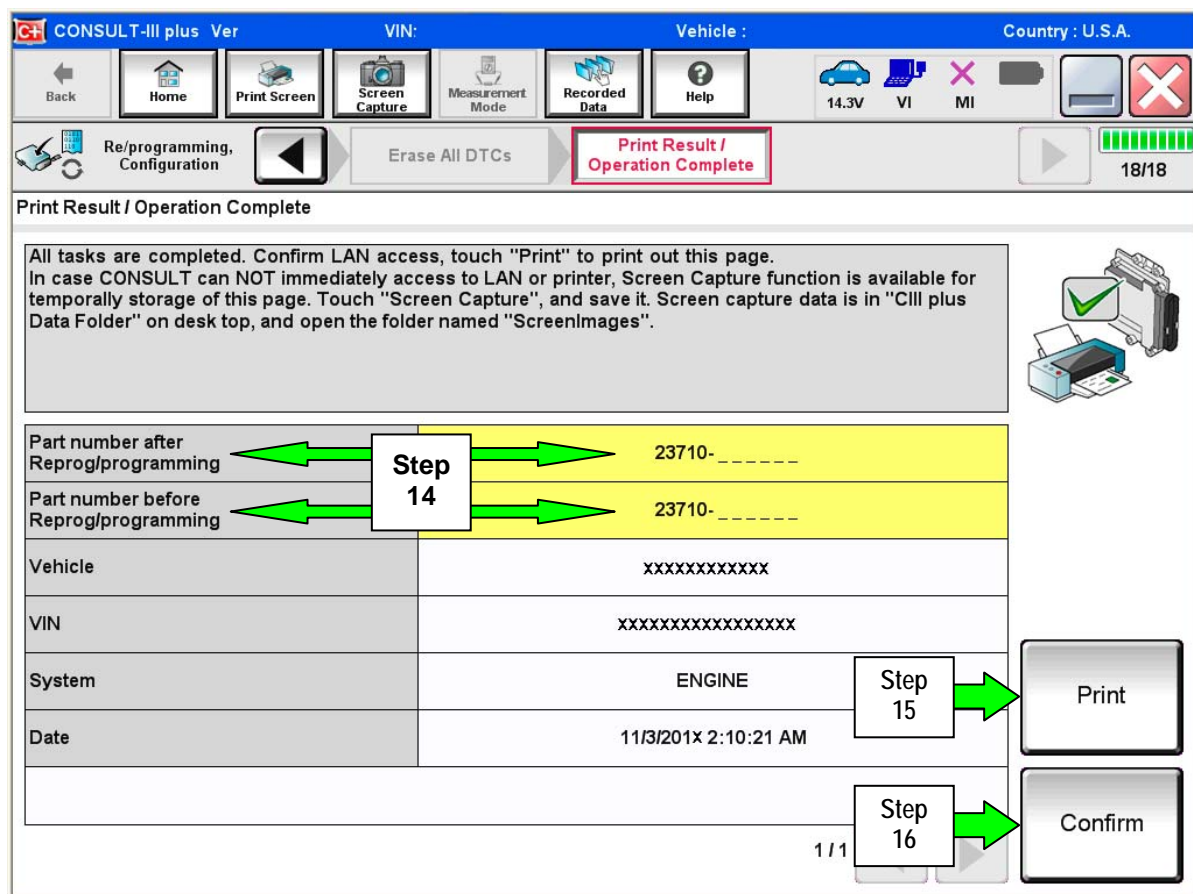

Figure 7
13. When the entire reprogramming process is complete, the screen in Figure 7 will display.
15. Print a copy of this screen (Figure 7) and attach it to the repair order for warranty documentation.